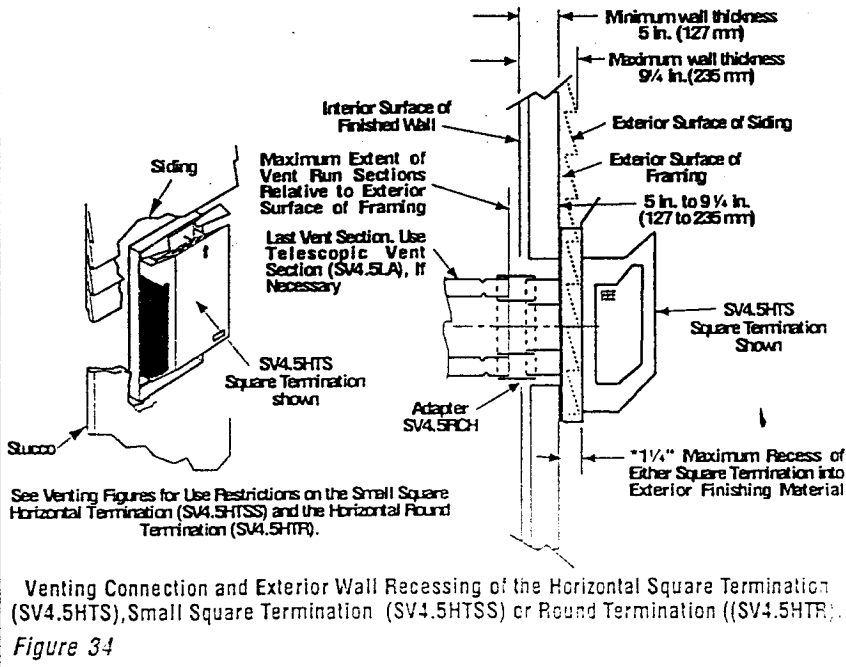
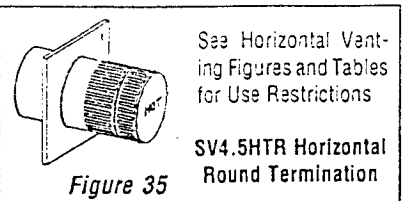

Figure 34
Figure 35
2. Install the round termination (SV4.5HTR) - See *Figure 35* for an illustration of the round termination. For the last step, from outside the exterior wall, slide the collars of the termination onto the adapter (the outer over the outer and the inner inside the inner) until the termination seats against the exterior wall surface to which it will be attached. Orient the housing of the termination with the arrow pointed upwards. Secure the termination to the exterior wall.
*See Figure 34.
*Note: See Figure 34 for wall thickness range reductions when using SV4.5HTS and Figure 35 when using SV4.5HTSS terminations.